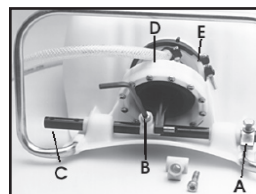

Figure 13
- 1) Loosen the stop plate (A) and remove the two allen head screws (B) that hold the connecting pieces to the pump rod. Figure 13.